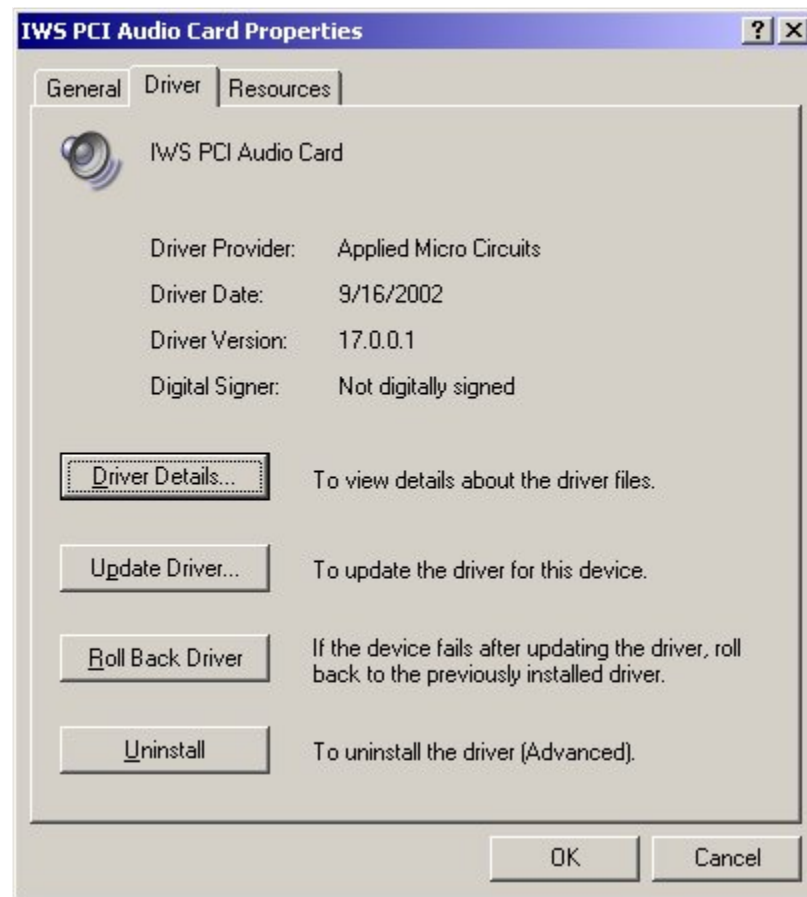

FIGURE 223. Driver tab of the IWS PCI Audio Card Properties
10. The window as in Figure 223 should appear.